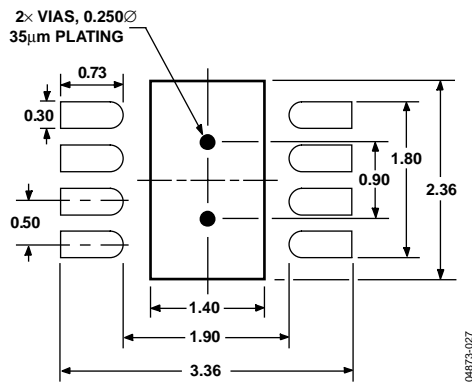

Figure 27. 3 mm × 3 mm LFCSP Pad Pattern
- The pad pattern is shown in Figure 27. Follow the pad dimension closely for reliable solder joints, while maintaining reasonable clearances to prevent solder bridging.